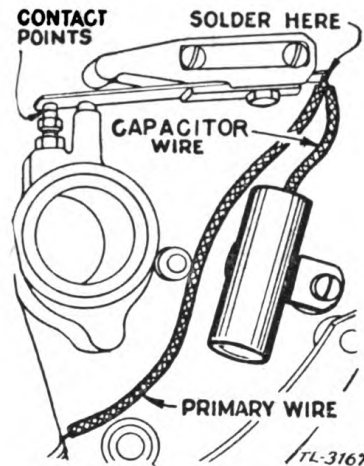

FIGURE 25.—Capacitor installation.
(9) *Replacing capacitor.*—A leaky capacitor may cause the engine to be hard to start, to sputter, or to misfire under load. If the motor misfires after the gasoline line, carburetor, spark plug, cable, and contact points have been checked, install a new capacitor. Slip the short insulator sleeve over the capacitor wire. Solder the end of the capacitor wire and the primary wire to the contact spring. (See fig. 25.)